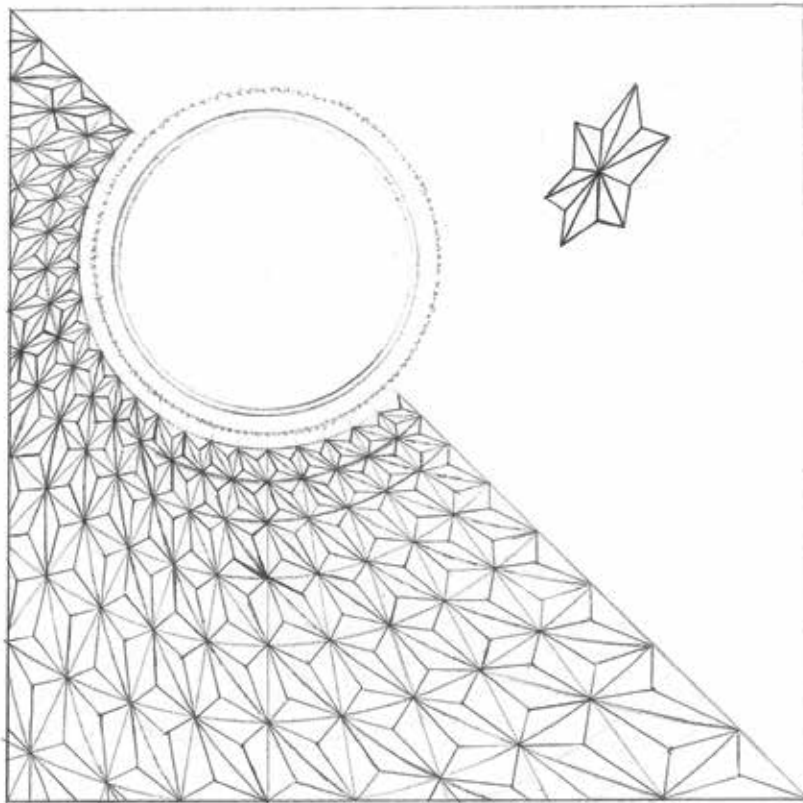

Figure 1
**Zina:** The single star represents Terry in Australia. His ideas cross the world to me and multiply into new ideas. It truly represents our “spheres of influence” (*Figure 1*). To transfer the design to the wood, I turned a plug to fit in the center and used a compass to draw the arcs. Then I drew the radiating lines from the center to